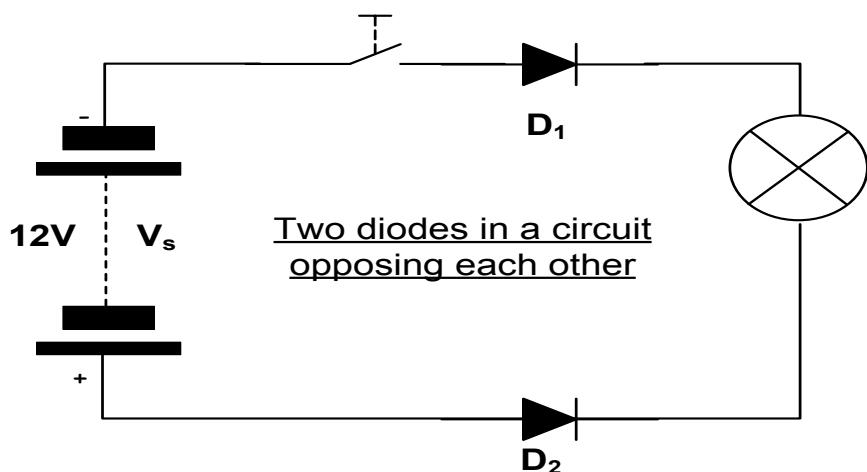

Figure 7
- Construct the circuit as shown in Fig. 7.